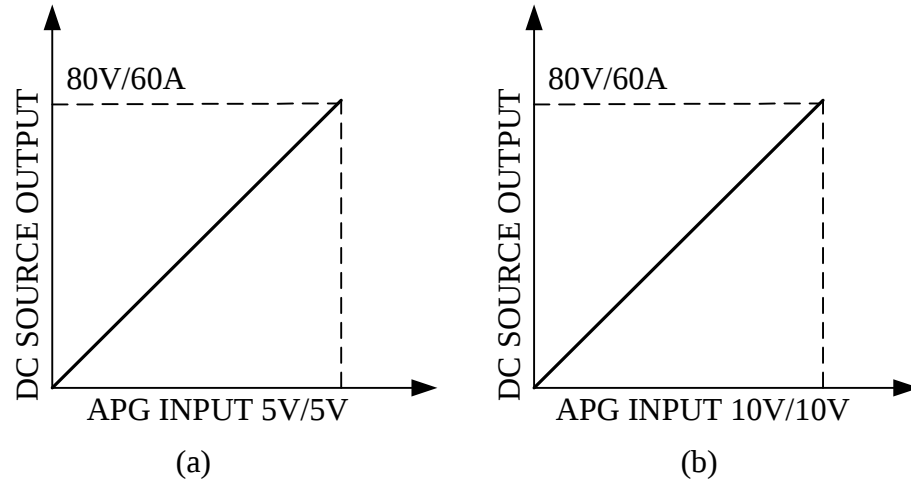

Figure 3-8
- a. When selecting $V_{ref}=5V$ ➡ it means the DC Power Supply's output 0V/0A~80V/60A will map to 0~5V (programming or measurement) as Figure 3-8(a) shows.
- b. When selecting $V_{ref}=10V$ ➡ it means the DC Power Supply's output 0V/0A~80V/60A will map to 0~10V (programming or measurement) as Figure 3-8(b) shows.